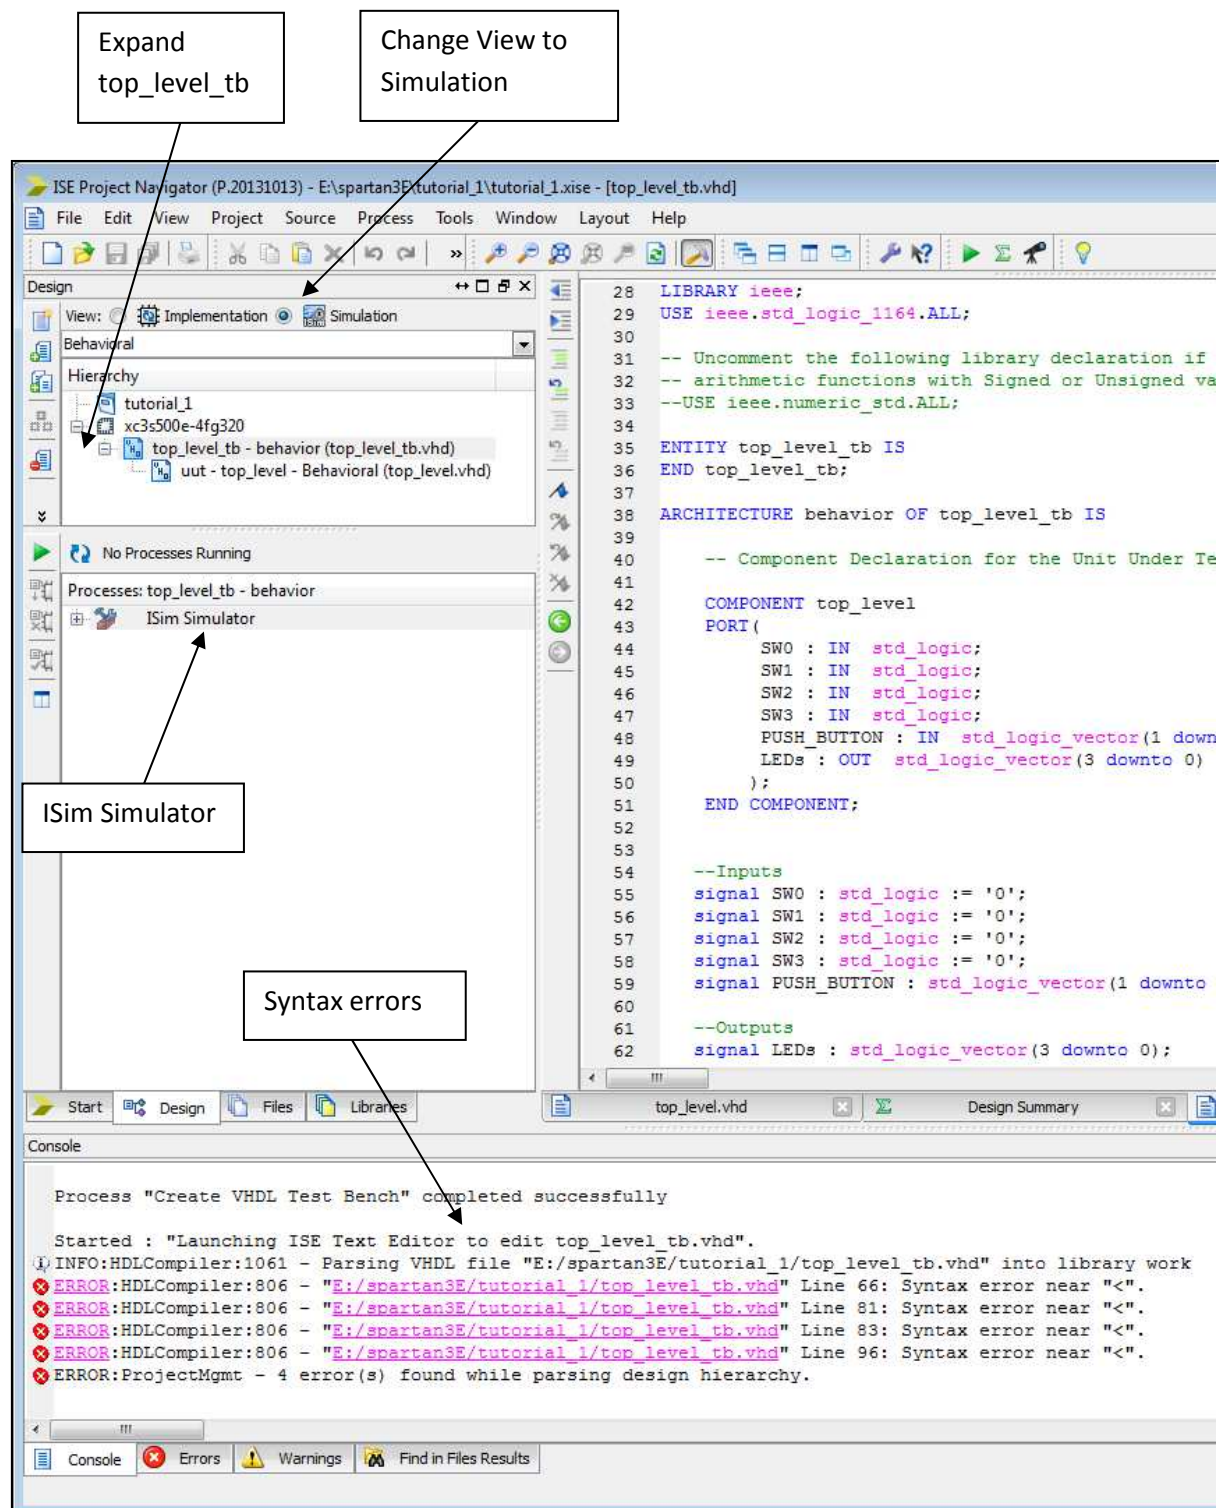

Figure 4.4: Simulation view.
3. Change the **View** from **Implementation** to **Simulation** by clicking the **Simulation** check box toward the top left of the screen, as shown in Figure 4.4. When this is done, **top_level_tb** will appear as the top level module. Click on the "+" next to **top_level_tb** to show the **uut - top_level** sub-module. Note that the **Processes** window will now contain an item called **ISim Simulator**.
- Note that some syntax errors are reported at this stage, as shown in Figure 4.4. Ignore these for now.
1. Comment out the **<clock>_period** constant (line 66 in Figure 4.7), the **clock process definition** (lines 80-87 in Figure 4.9), and **wait for <clock>_period*10** (line 96 in Figure 4.10). A clock is not used in this design and these lines are not needed. These lines are in fact the cause of the syntax errors in Figure 4.4.